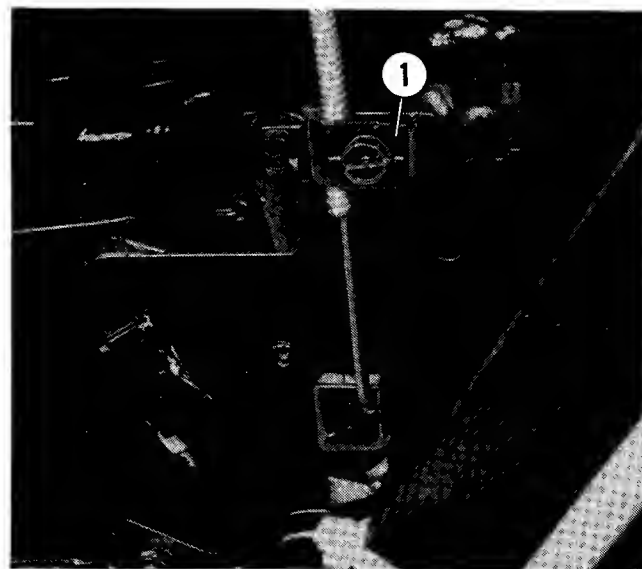

Figure 9 Throttle Control Mechanism (B&S Engines)
C. Connect the cable end to the throttle control mechanism on the engine as shown in Fig. 9. Do not secure the clip at this time.